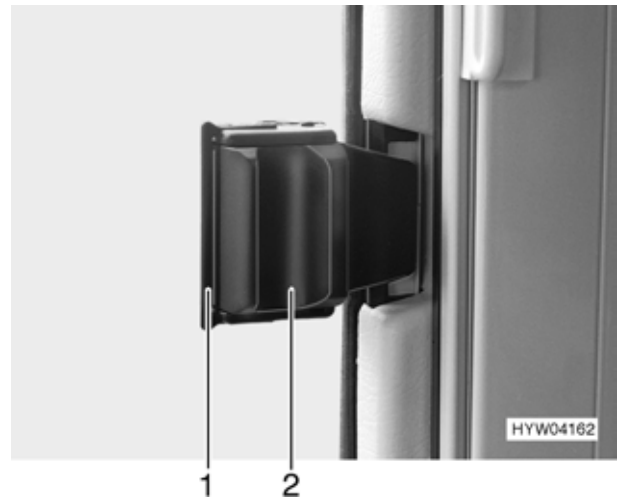

Fig. 36 Sliding window (variant 1)
- Pull the catch (Fig. 36,1) forwards.
- Press handle (Fig. 36,2) and push forward at the same time.